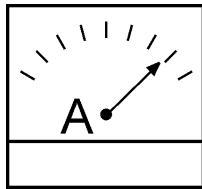

Figure 51. Ammeter (Load)
- Observe the generator's ammeter (Figure 51) and verify it reads the anticipated amount of current with respect to the load. The ammeter will only display a current reading if a load is in use.